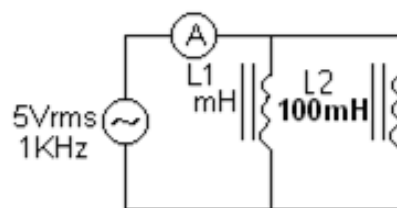

Figure 6
10. Connect the circuit as shown in Fig.6, measure the voltage V_{L1} , V_{L2} , V_{Ltot} and I_{Ltot} , I_{L1} and I_{L2} .